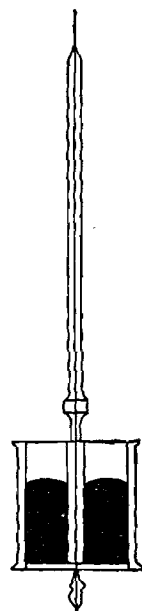

Fig. 11.6. A clock pendulum.
**65. Pendulums and Balance Wheels.** Pendulums are used to regulate the speed of clocks — the longer the pendulum the slower the clock runs. If the pendulum is made of metal, the length changes as the temperature changes, and the accuracy of the clock is affected. If wood is used instead of a metal, it changes length because of changes in the humidity. One way of compensating for the change in length of a metal pendulum is shown in Figure 11.6. Two containers of mercury are mounted at the lower end of the pendulum rod.